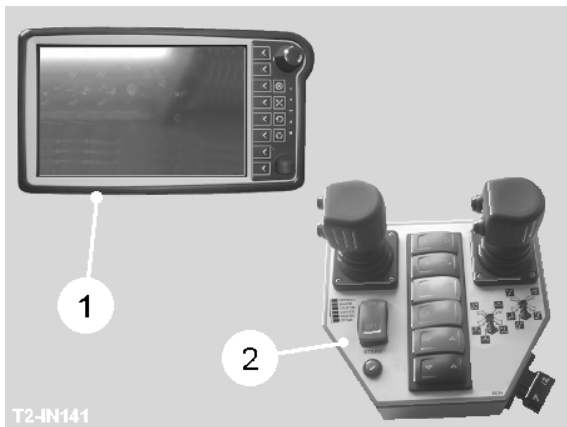
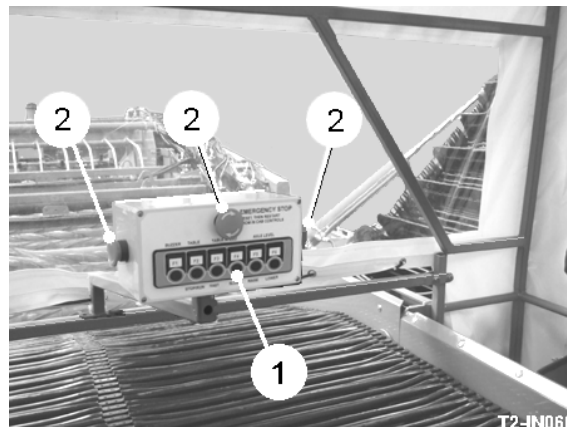

Fig 33
Fig 34
Control of all the operating functions of the T2 are through the Can-bus control system. The in-cab controls are covered by the touch-screen service terminal (Item 1, fig. 33) and the slave box (Item 2, fig. 33). The slave box covers all the basic switched functions used in normal operation and these are also repeated on the service terminal. The primary function of the touch screen service terminal is to allow easy access to all the variable functions such as speeds etc., and to allow all the operating functions to be monitored on the screen. Setting and monitoring can be carried out by following the instructions in the 'Control System' section, or as shown on the display screen. On manned machines, an additional control box (item 1, fig. 34) is fitted above the picking table which allows the pickers to adjust the picking web speed and axle level etc.
When activated, the manual emergency stop buttons (item 2, fig. 34) shut down all hydraulic drives and electrical controls by turning off the machine control module and displaying the 'Press Start' screen on the service terminal. The service terminal remains live but will not operate any function.